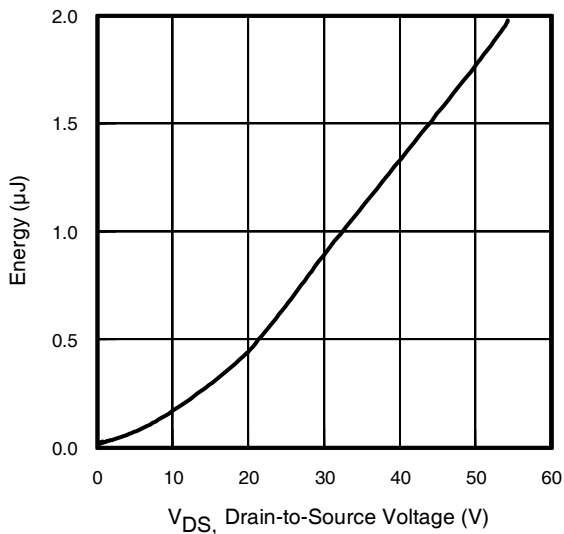

Fig 11. Typical  $C_{OSS}$  Stored Energy
| $C_{oss\text{ eff. (ER)}}$ | Effective Output Capacitance (Energy Related) | —    | 1480 | —    |       | $V_{GS} = 0V, V_{DS} = 0V \text{ to } 48V$ ⑦, See Fig. 11 |